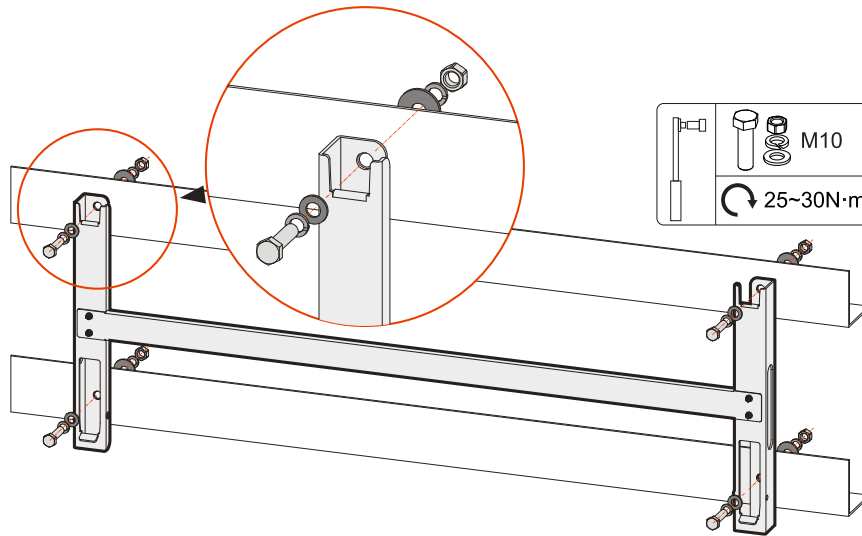

Figure3-15 Fix installation holder
- Step 4 Fix the installation holder to the bracket, use M10*40 bolts, put on flat washers, spring washers and nuts, and then tighten the nuts clockwise with a wrench, as shown in Figure3-15.